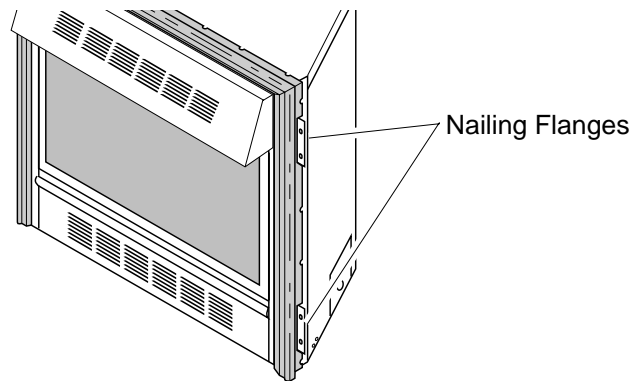

Figure 8 - Location of Nailing Flanges
2. Break off nailing flanges (see Figure 8) with hammer or pliers.